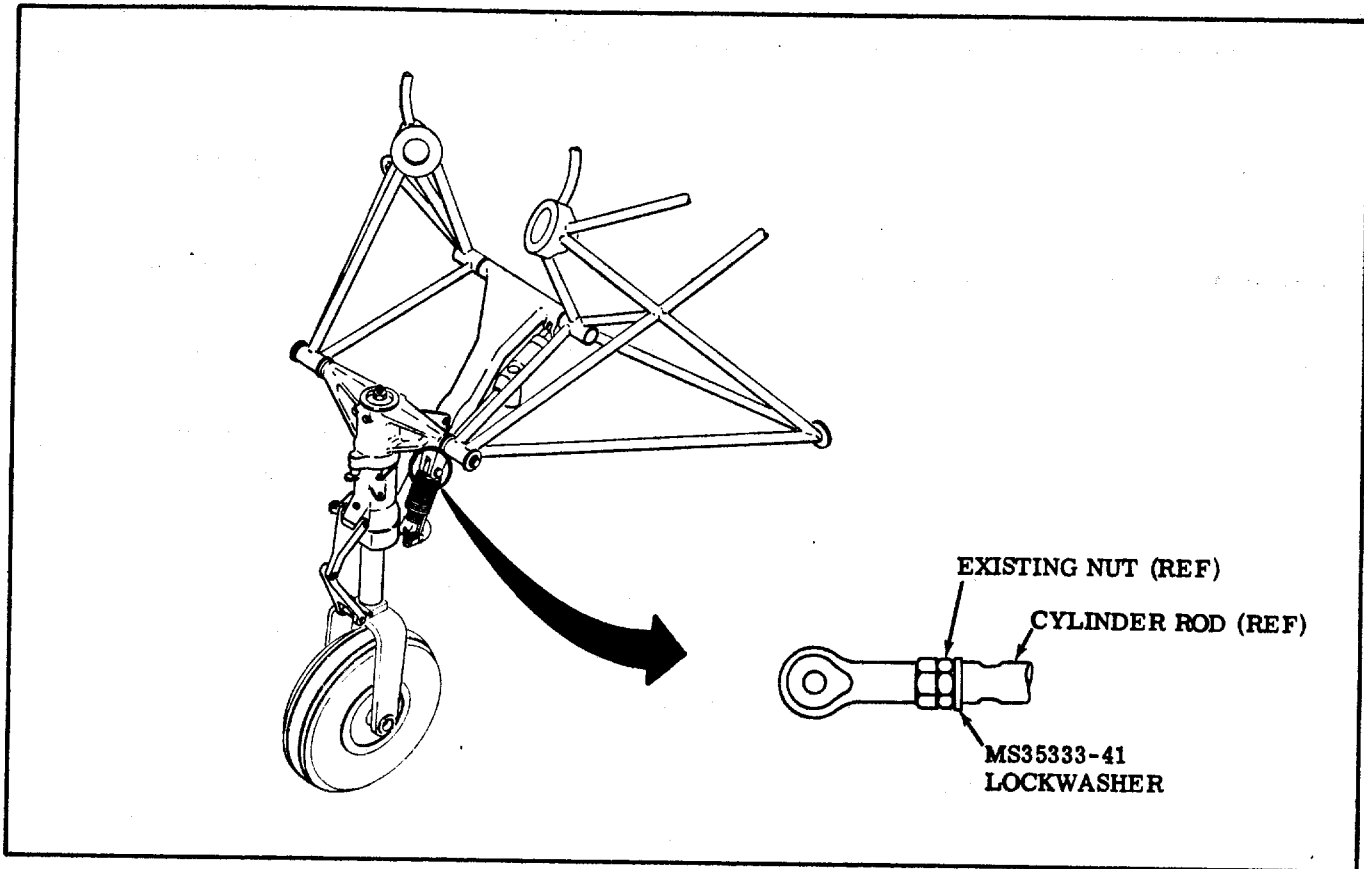

Figure 1.
4. Install MS35333-41 lockwasher and existing rod end on nose landing gear retract cylinder and run nut and rod end all the way down on threads of retract cylinder (see Figure 1.).